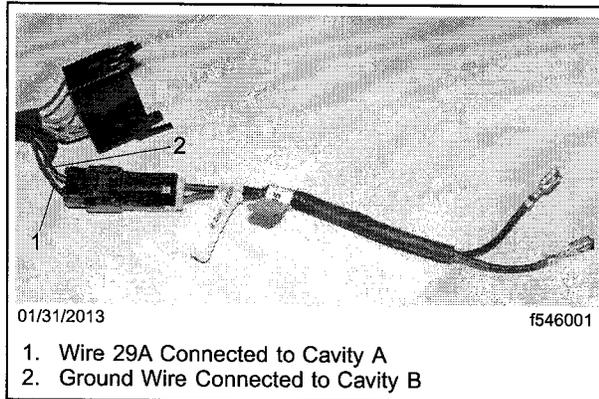

Fig. 7, Harness Attached to the Free Connector
10. Connect the new harness (A06-89235-000) to the free connector. See Fig. 7.